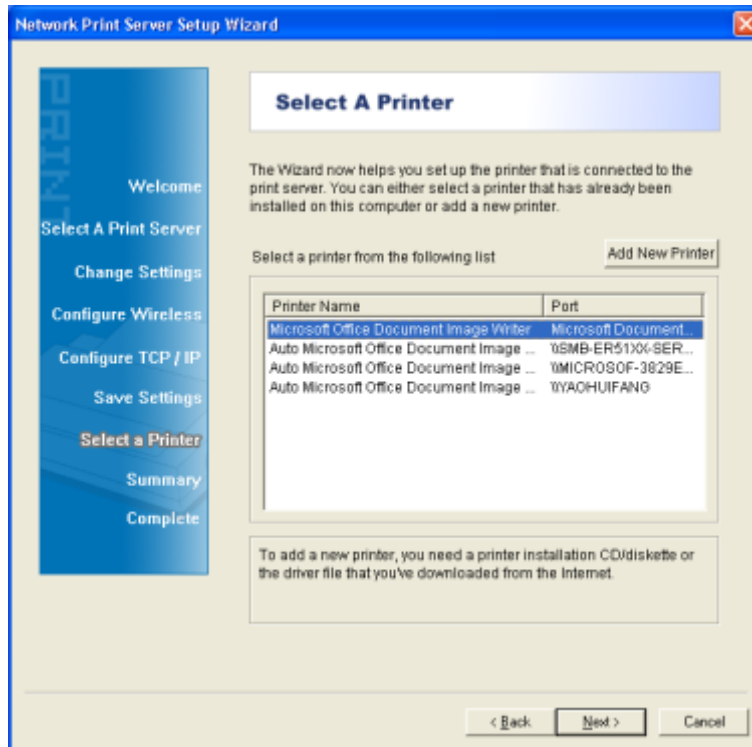
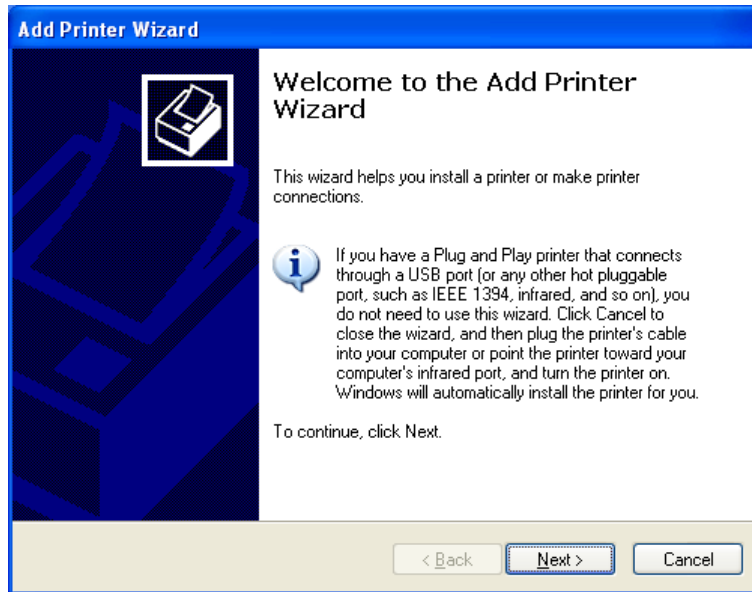

Figure 3-9
Figure 3-11
- Select “**No**” if you don’t need to change any settings. Click **Next** and then appears Figure 3-9. Skip to Step 23.
8. After that the “**Select a Printer**” page will appear, as shown in Figure 3-9.
- If you never use a printer on your computer before but also want to share printing, click **Add New Printer** button in Figure 3-9 and then Figure 3-11 appears. Follow the steps below to install the printer driver.